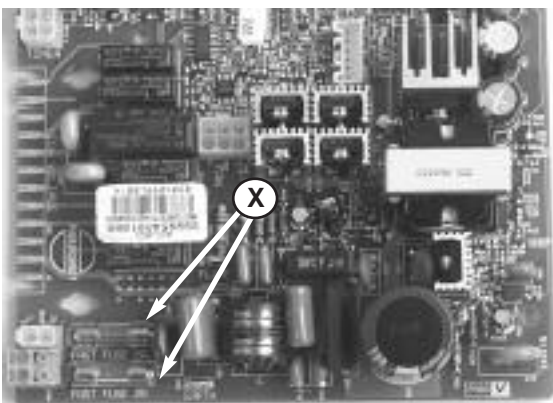

Fig. 112
- Remove the fuses "**X**" (see *Fig. 112*)